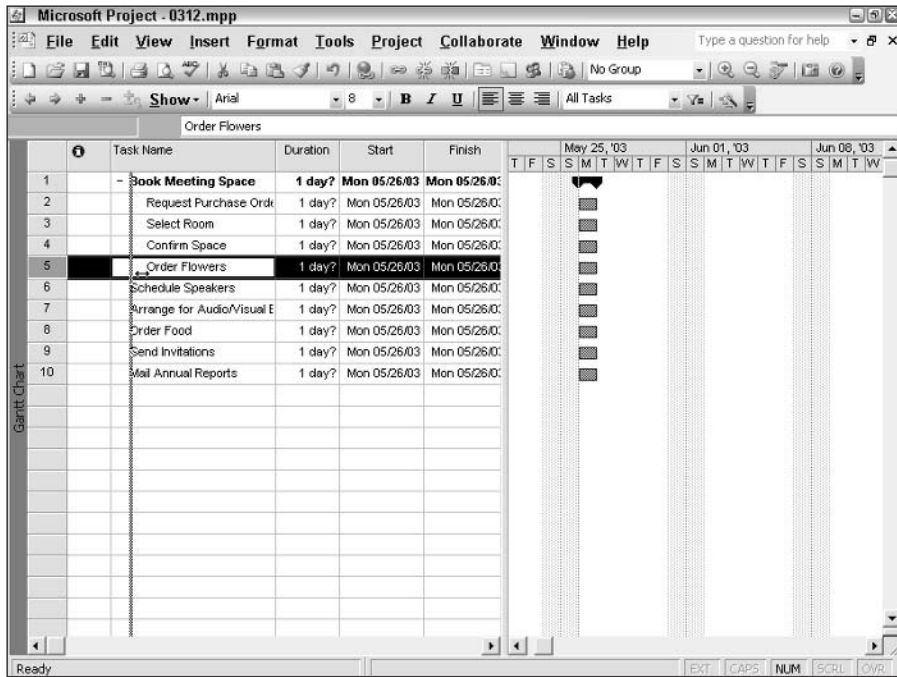

Figure 3-12: You can use your mouse to drag tasks in or out in the outline hierarchy.
2. Drag the task to the left until a thick gray line indicates that the task is lined up with the upper-level tasks in the outline, as shown in Figure 3-12.